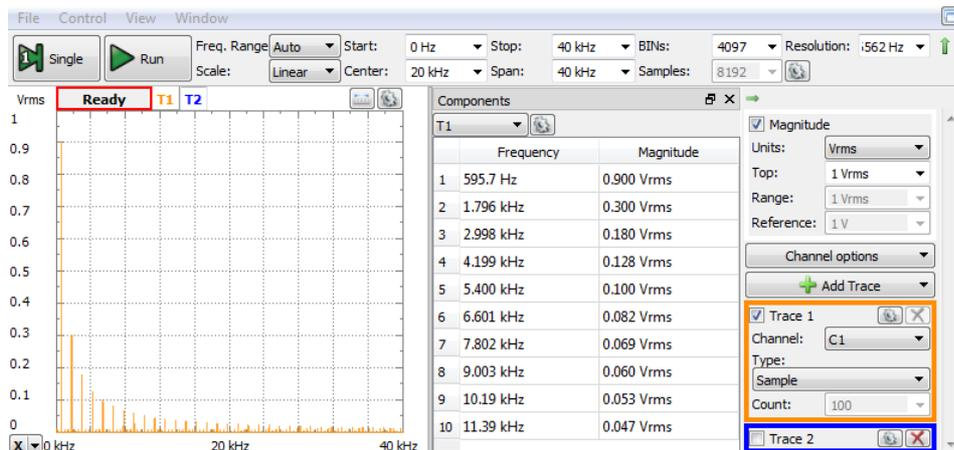

Figure 1.12 Reading the amplitudes of spectral components
- Use *Spectrum analyzer*, to measure the relative amplitudes of fundamental, 3rd and 5th harmonics of the WaveGen1 signal, as in Figure 1.12: fundamental @ ~ 600Hz, 3rd harmonic @ ~ 1800Hz, 5th harmonic @ ~ 3000Hz: